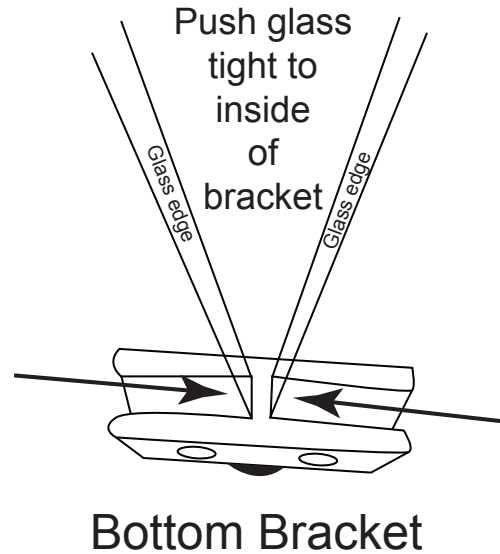

Fig. 8 Shows glass panel edge against inside of bracket.
STEP 1: Work your way around the glass panels. Keep the screws loose to ensure the brackets are positioned correctly with the glass panel all the way inside the bracket. See Fig. 8. Tighten only after all the brackets are properly in place. **Note:** Screw heads are to be positioned on the inside of the windshield.